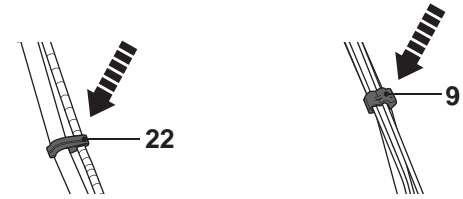

Fig. 5
- Fix the wires (5, 6) and electric cord (23) with the clips (9, 22) to both sides of the lower handle bar (7) (Fig. 5).